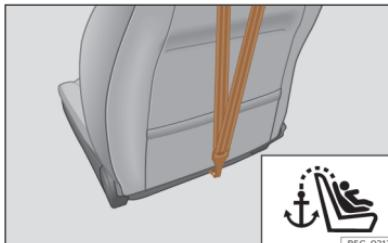

Fig. 41 Rear of front passenger seat backrest: Top Tether belt anchor (not available in all markets/versions).
Child seats with a Top Tether system are fitted with an additional belt for fastening to an anchor point in the vehicle. This anchor point is located on the rear of the rear seat backrest and of the front passenger seat backrest¹⁾ (identified with the symbol) and provides better retention >>> **Fig. 40**, >>> **Fig. 41**.
- Slide the belt and secure it properly with the anchor on the rear seat backrest **>>> Fig. 40 , >>> Fig. 41.**